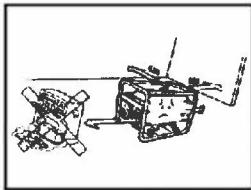

Fig4
4. The set must be kept away from the flammable materials at least one meter. (Fig 4)